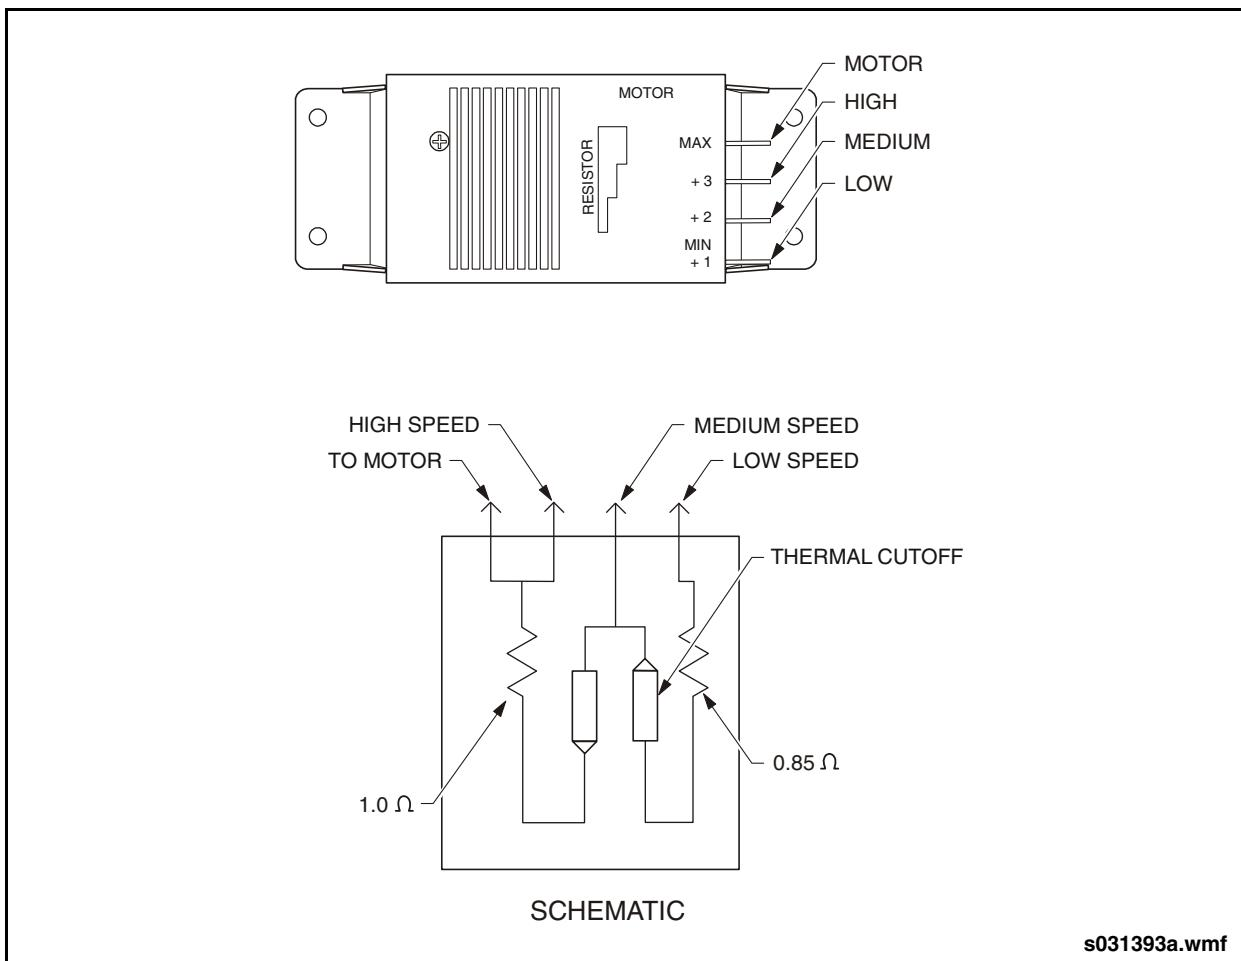

Fig. 10-15: Resistor Module
- a. Test the resistance between the Motor terminal and the High Speed terminal. Verify that the value is 0 ohms. See "Fig. 10-15: Resistor Module" on page 35.